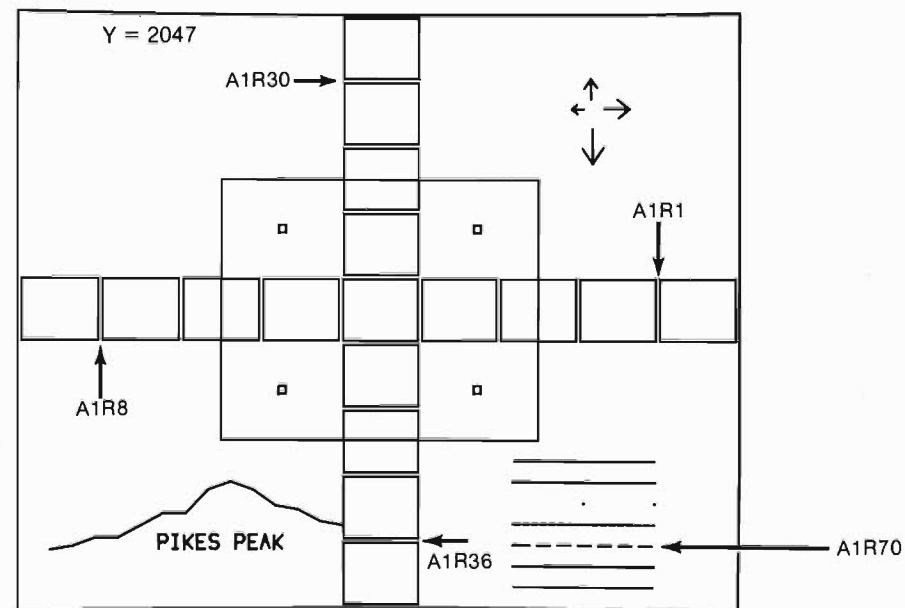

Figure 5-6. Stroke Generator Adjustment
The following procedures are referenced to figure 5-6. Perform the following adjustment steps in the same sequence as outlined below:
- a. Display the primary test pattern as shown in figure 5-6.